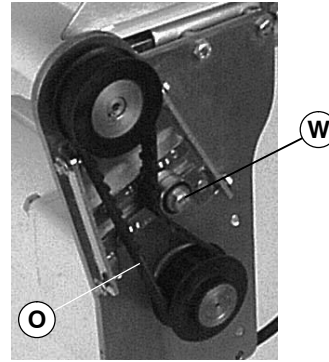

Figure 21
2. Loosen tensioner (W of Figure 21).